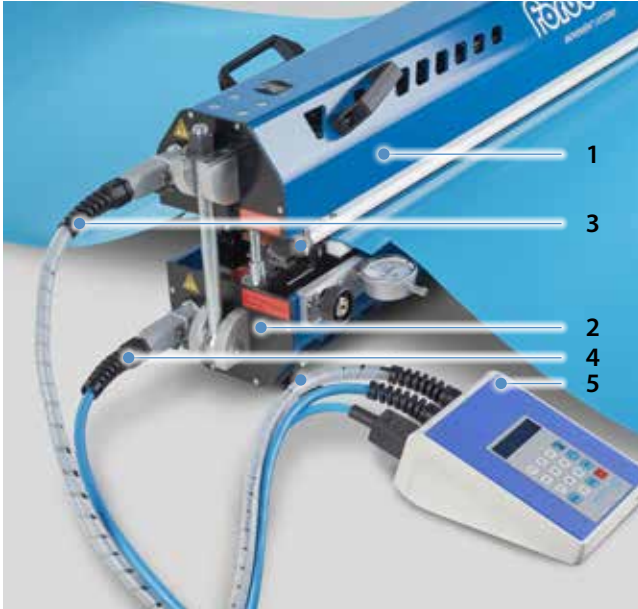

Fig. 4.4.1
1. Connect the top section (1) and bottom section (2) to the control device (5) with the connecting cables (3/4) and close the plug lock. (Fig. 4.4.1)
2. Connect the control device (5) to the power supply. (Fig. 4.4.1)